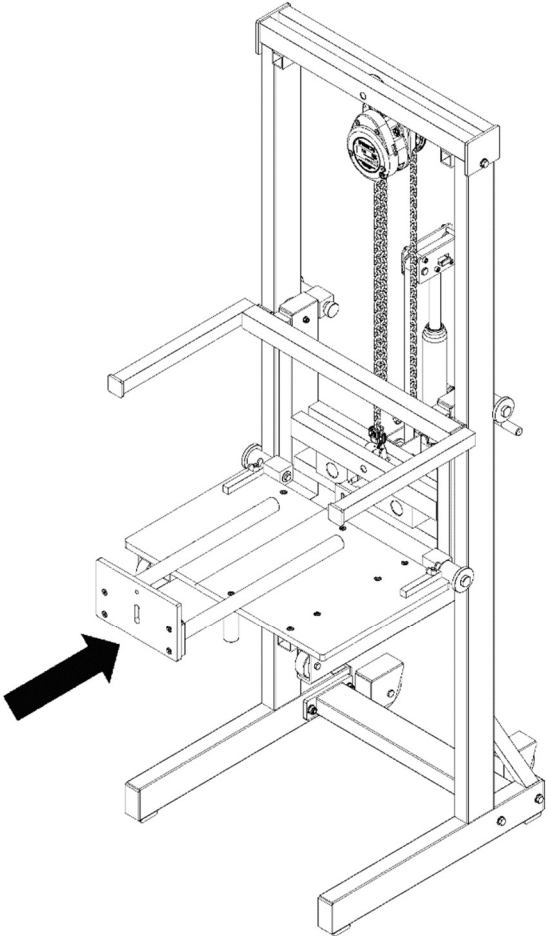

Fig. 7
7.7 The final step of assembly is to push the hoist guide into both boreholes of the forked frame's guide bearing as shown in Fig. 7.